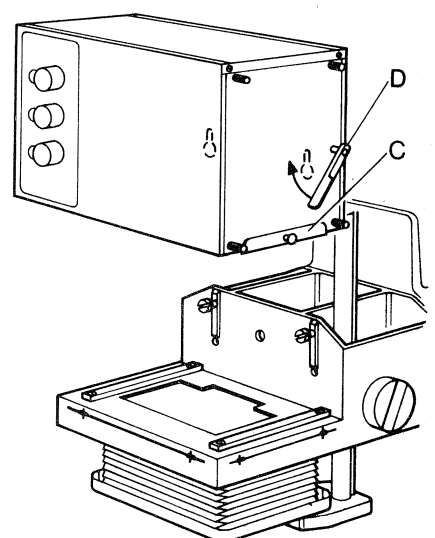
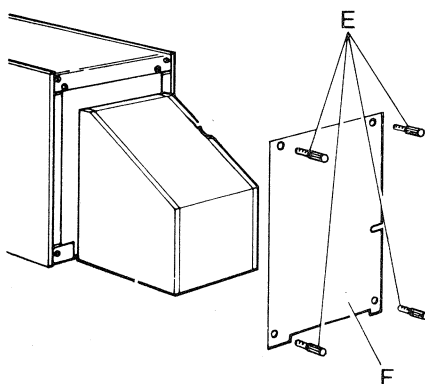

Fig 8
Fig 9
- 3.3.1 Remove the diffuser slide "C" (Fig. 8) from the color head. Position the keyhole slots in the rear of the head over the locating screws, and slide the Durst 401 Mk II down until it is securely positioned.
- 3.4.2 Remove the four thumb screws "E" (Fig. 9), rotate the lift lever "D" (Fig. 8) down to the vertical position and remove the end cover "F". The diffuser box can now be removed.